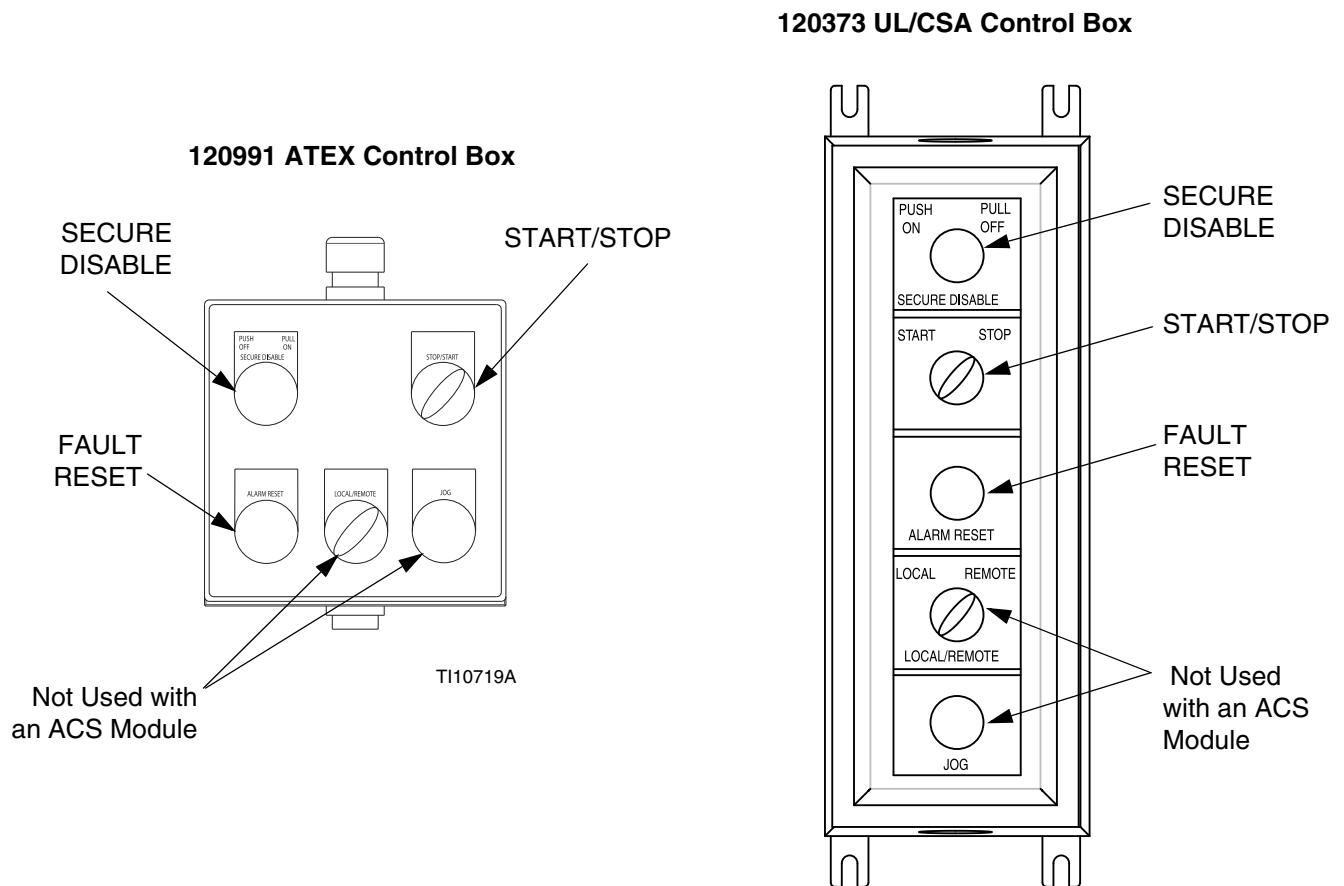

FIG. 14. Local Control Box
See FIG. 1 on page 9, and FIG. 14. Install the local control box (C) in the hazardous area as close to pump as possible.